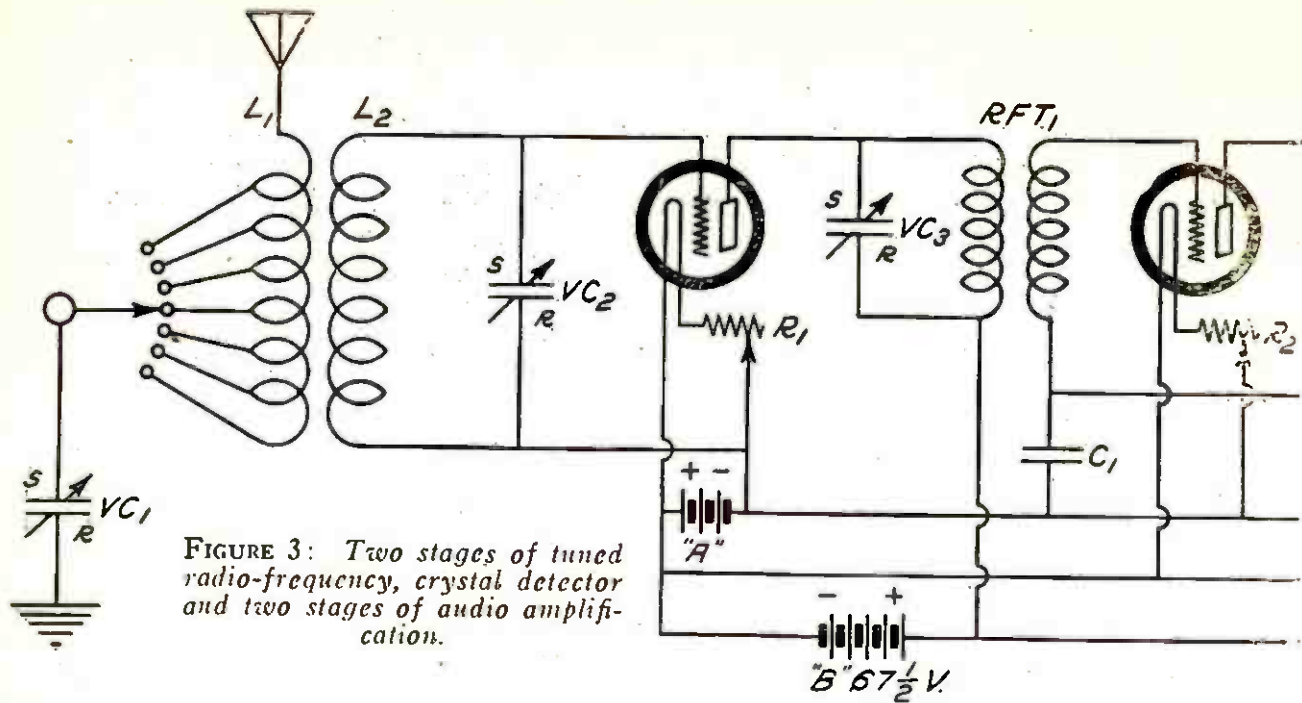

FIGURE 3: Two stages of tuned radio-frequency, crystal detector and two stages of audio amplification.
**ANSWER:** The diagram shown in Figure 3 shows how to connect up the instruments that we advise using. This circuit includes two stages of radio-frequency amplification, crystal detector, with one stage of audio-frequency amplification reflexed on the second radio-frequency stage, and one stage of audio added to the whole. This set-up uses only three tubes.